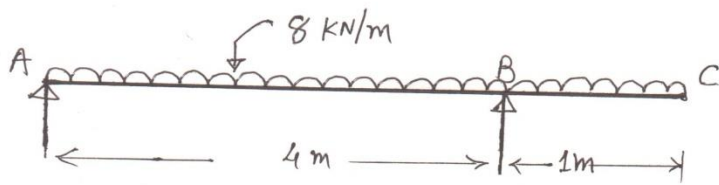

fig.2 Q.2(d) OR
- (d) Draw Shear force and Bending moment diagram for a Beam as shown in fig.2 **04**